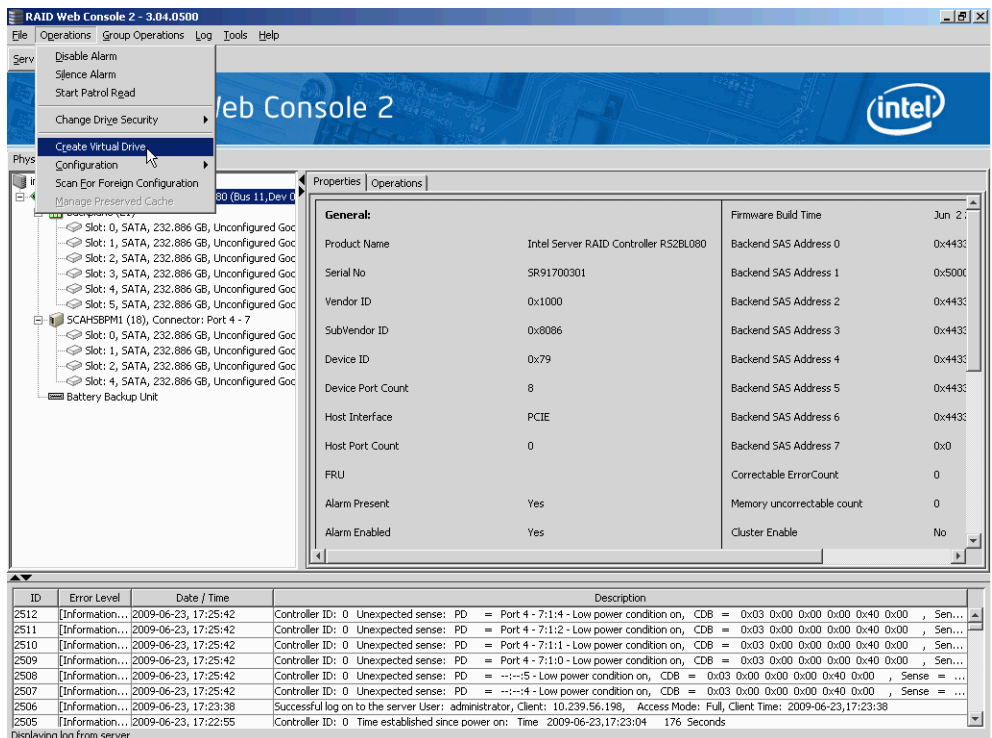

Figure 131. Virtual Drive Creation Menu
- Select the controller node and select **Operations -> Create Virtual Drive** in the menu bar, as shown in Figure 131